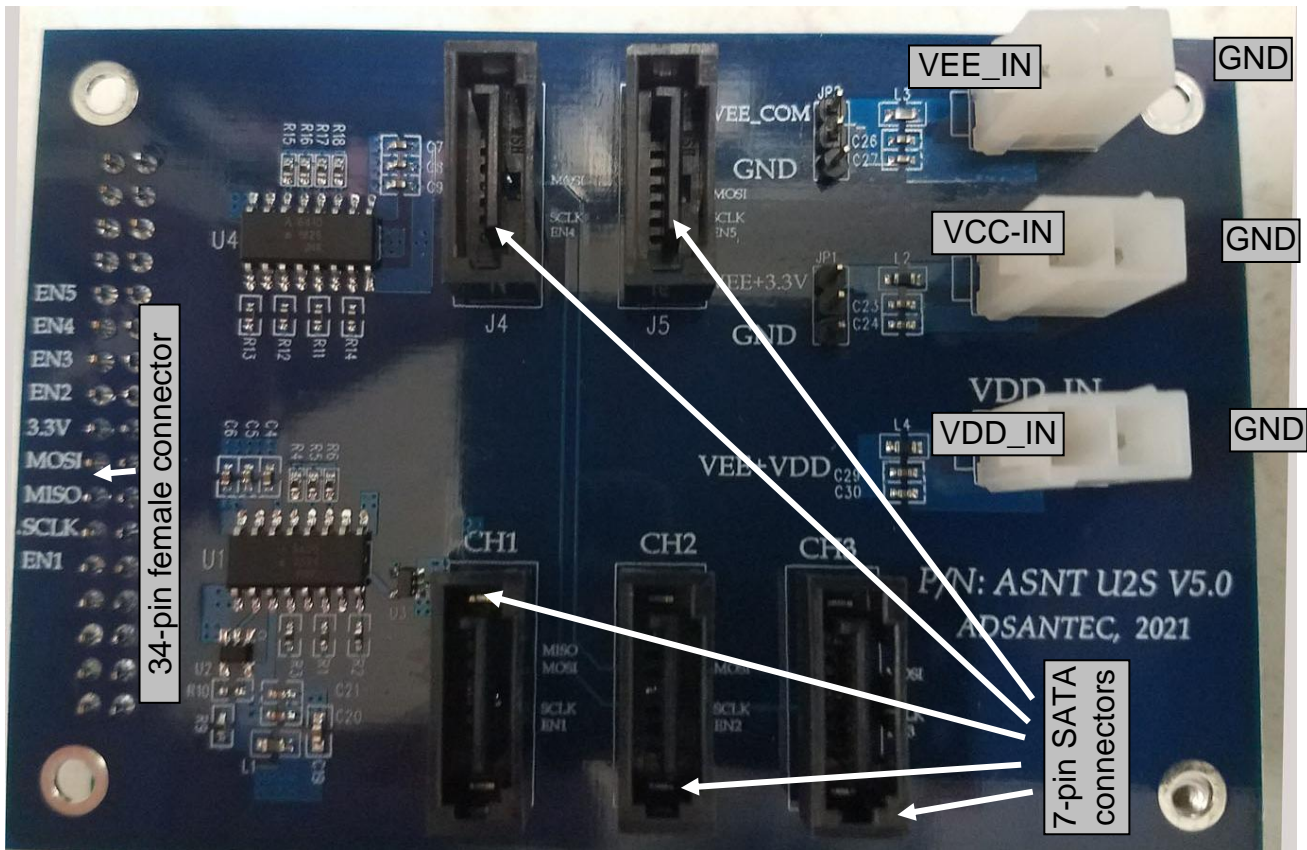

Fig. 2. ASNTu2s v5.0
1. The ASNTu2s PCB v5.0 shown in Fig. 2 is a 5-channel splitter, and 3.3V SPI to applicable VDD SPI level converter for the SPI interface. It includes two optocouplers ICs, MOLEX connectors (J6, J7, J8) for configurable power supplies, a 34-pin female connector (P1) interfacing ASNTu2s PCB v5.0 with Tiger Board, five 7-pin SATA connectors (J1-J5), and two 3-pin jumpers for supply configuration. The board measures approximately 3.2x2.4 inches.